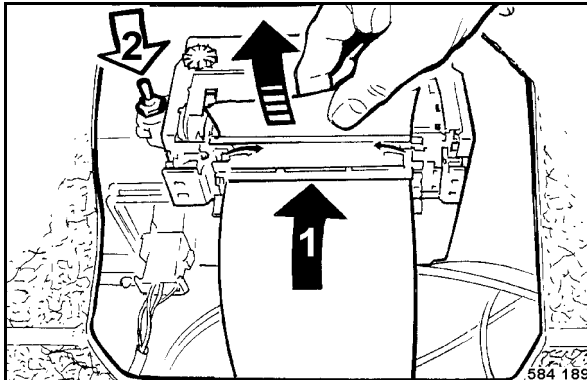

Fig. 105
- Insert a new paper roll (Fig. 105).
- Feed the paper into the guide (1) on the printer.
- Actuate the toggle switch (2) in direction of arrow, until the paper comes out of the printer.